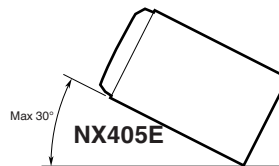

Figure 2
2. Install the unit within 30° of the horizontal plane. (Figure 2)